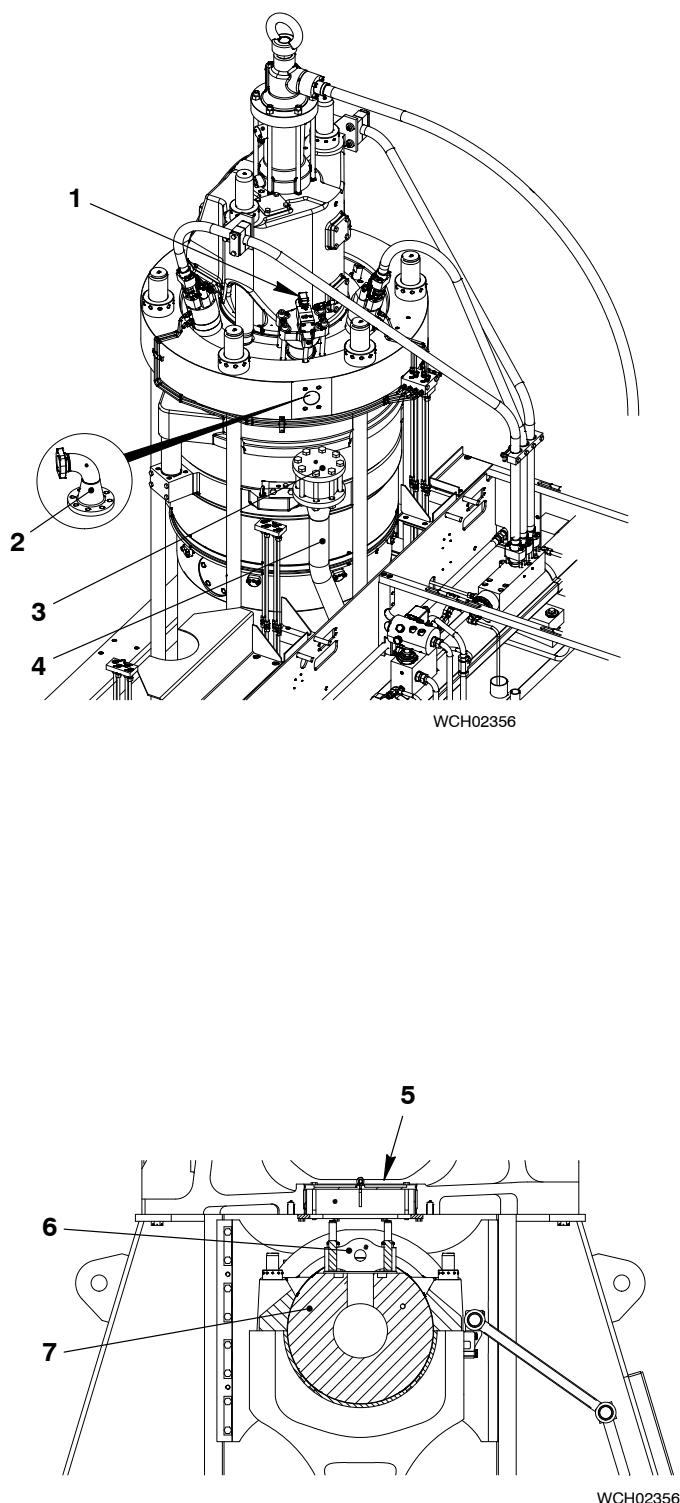

Fig. 1: Tools 9486-01 and 9423-01
- 1) Disconnect the electrical connection from the starting air valve (1, Fig. 1).
- 2) Remove the elbow (2) from the starting air pipe (4).
- 3) Install the blank flange (3, tool 9486-01) to the starting air pipe (4).
- 4) Install the cover and the lifting plate (6) (tool 9433-03) on to the crosshead (7).